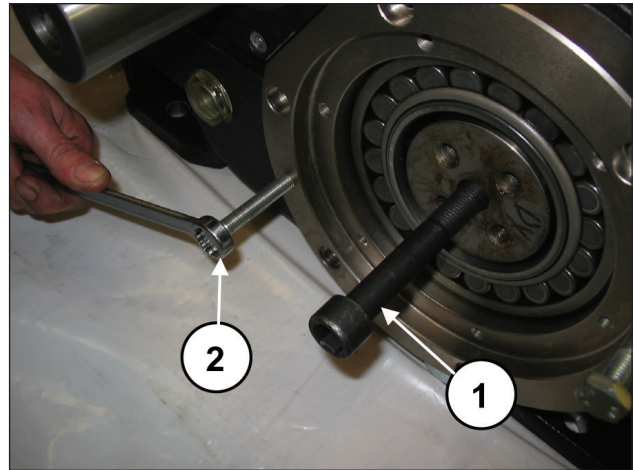
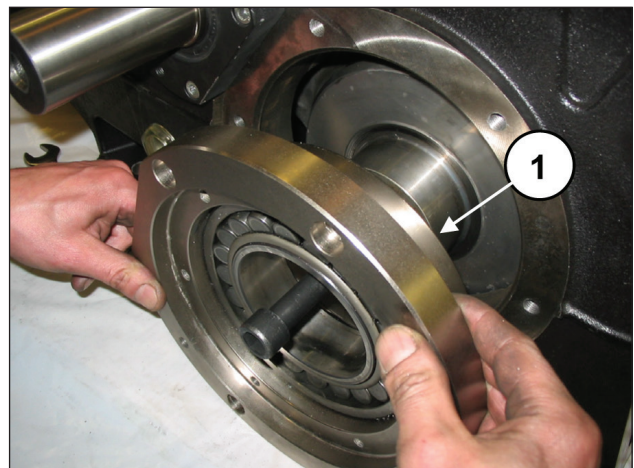

Fig. 24
Fig. 25
Apply an M16 threaded pin to one end of the bend shaft (pos. ①, Fig. 24) and, while keeping it raised, take out the bearing support cover complete with bearing and O-ring (pos. ①, Fig. 25). To help with their removal, use 2 x M10 grub screws or screws (pos. ②, Fig. 24) as extractors. Repeat the operation on the other side.